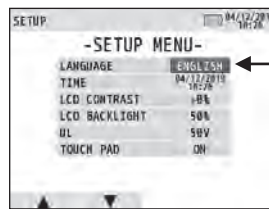

Fig.6-2
- (1) Press F4 "SETUP" while the start-up screen is displayed (approx. 2 sec.) after turning on the instrument.
- (2) SETUP screen appears. (See Fig. 6-2.)
- (5) Press ENTER when settings are done. Then the screen returns to the SETUP MENU screen as Fig. 6-2. Press ESC to cancel the changes.
- (6) Pressing ESC on SETUP MENU screen (Fig. 6-2) gets the instrument in stand-by mode.